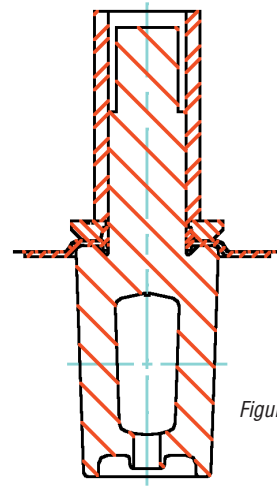

Figure 21
8. The thrust gland (Part 7) is then assembled over the plug and driven into place using the thrust gland guide, part series BY90431 and arbor press (Figure 21).